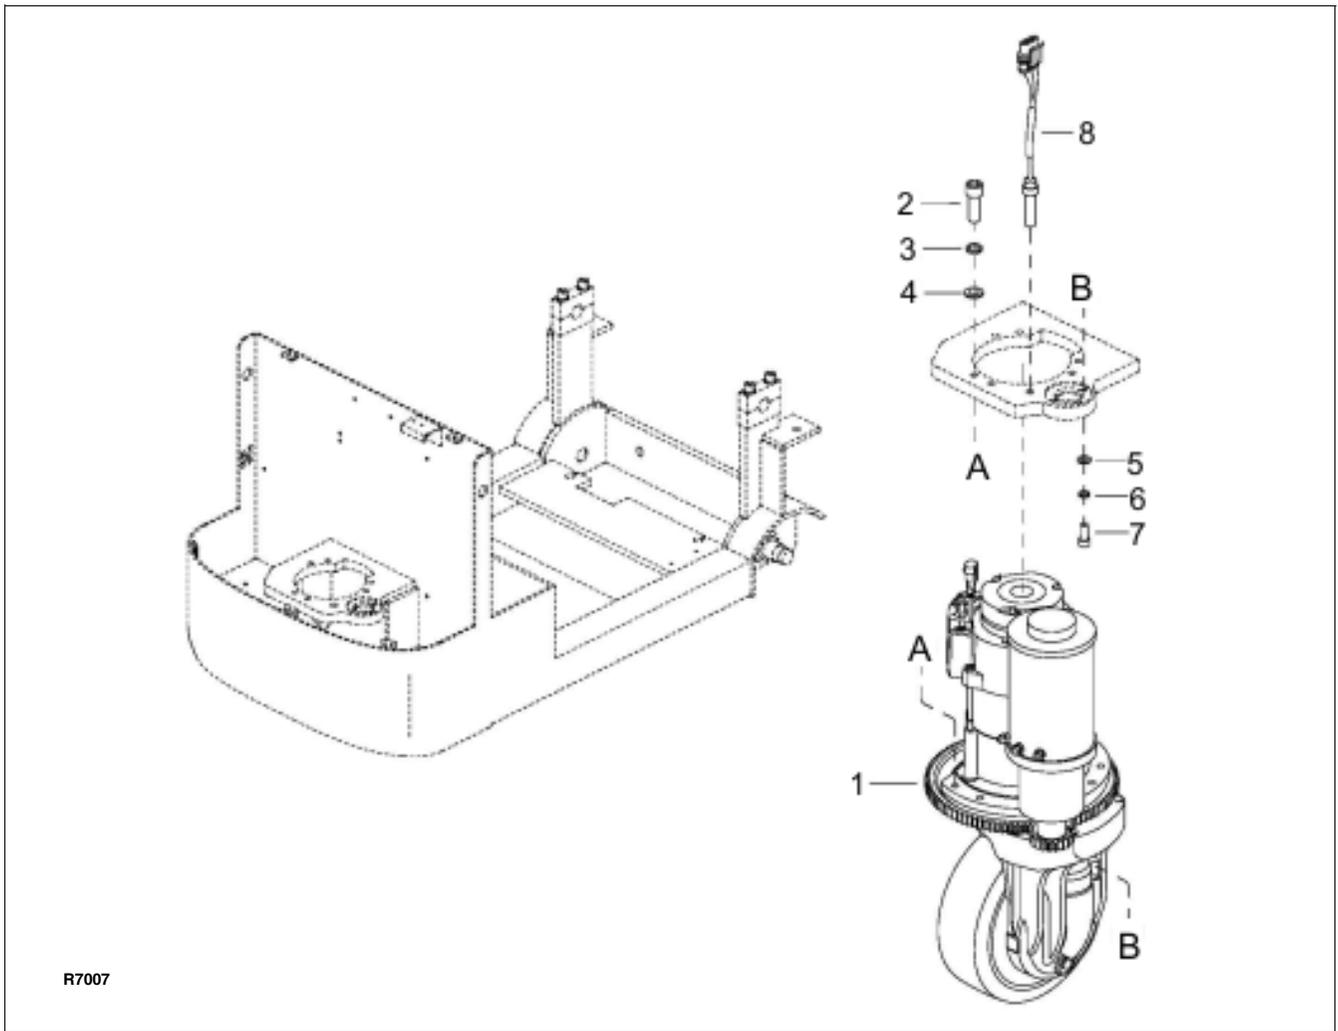

Figure 6-1 Drive System
4. Raise the vehicle off the ground to provide clearance for drive assembly (1, Figure 6-1) out the bottom. Securely block the vehicle to prevent movement.
7. Disconnect encoder (7) from drive motor (2).
8. Support the drive assembly (1, Figure 6-1) and remove six screws (2), six washers (3) and flat washers (4).
9. Lower the drive assembly (1) out the bottom of the vehicle.
10. Install new drive assembly (1) by reversing the steps above.